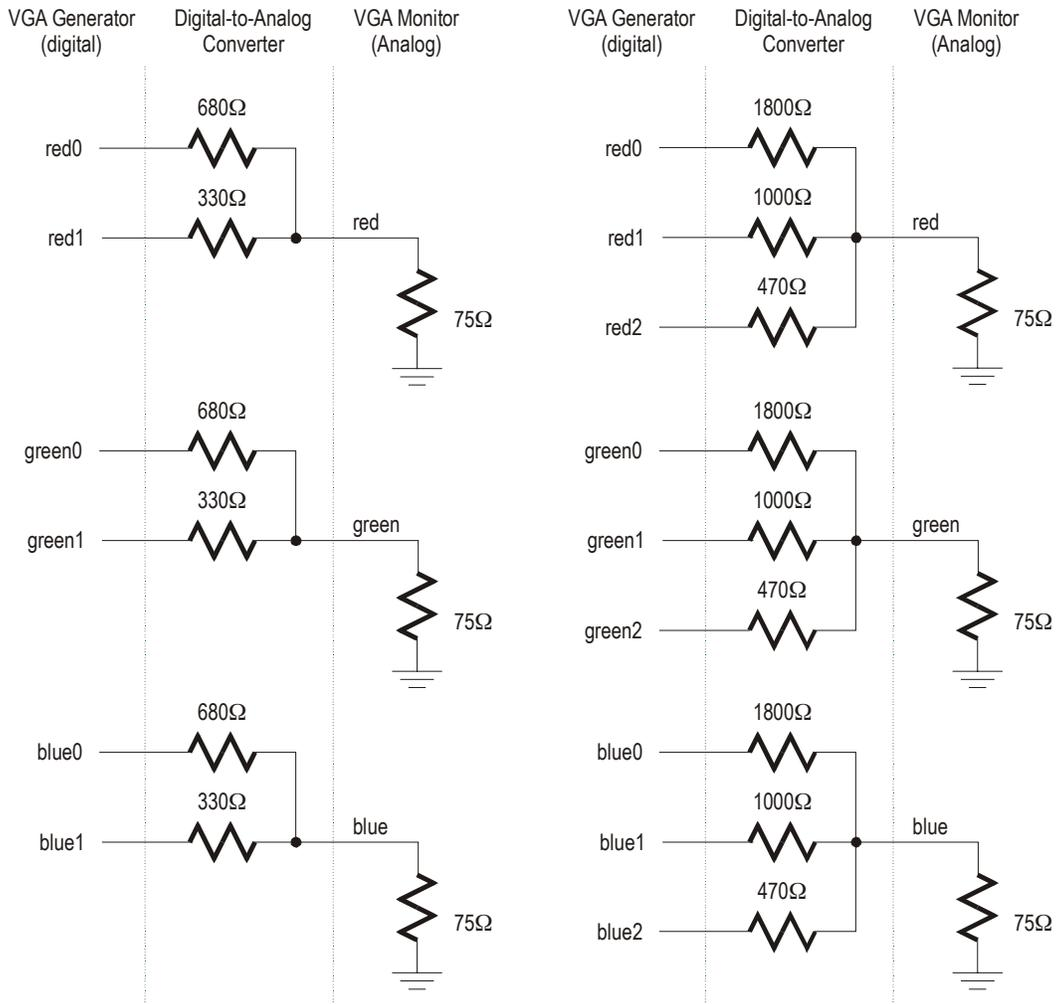

Figure 1: Two-bit and three-bit digital-to-analog VGA monitor interfaces.
Each analog color input can be set to one of four (eight) levels by two (three) digital outputs using a simple two-bit (three-bit) digital-to-analog converter (DAC) as shown in Figure 1. The four (eight) possible levels on each analog input are combined by the monitor to create a pixel with one of $4 \times 4 \times 4 = 64$ ($8 \times 8 \times 8 = 512$) different colors. So the six (nine) digital control lines let us select from a palette of 64 (256) colors.